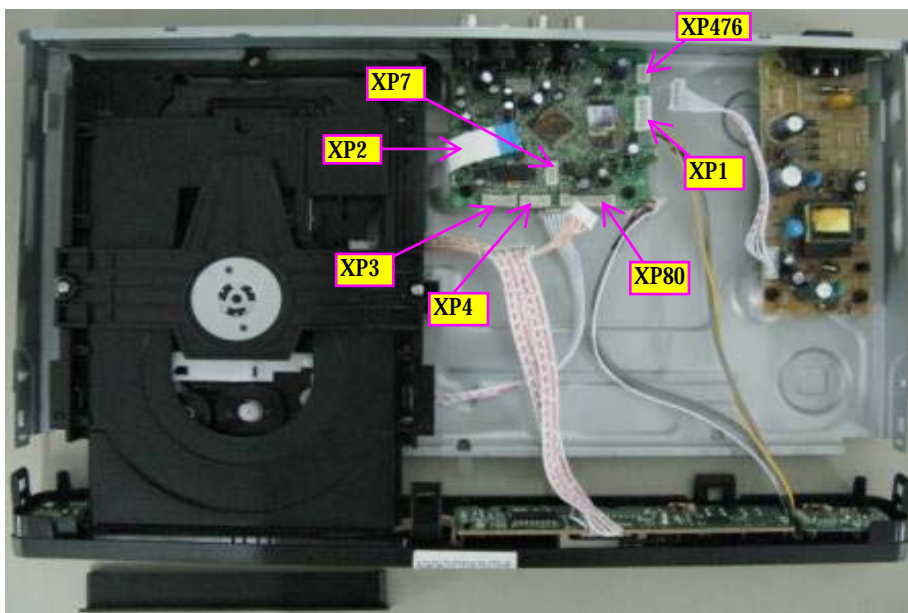
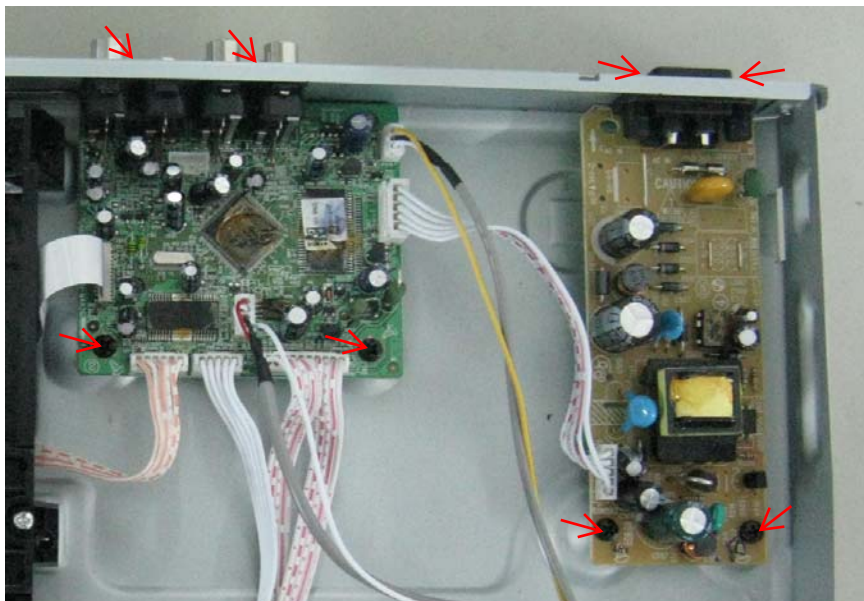

Figure 4
Figure 6
Step4: Dismantling Front Panel, disconnect the connectors (XP80, XP7, XP476), need release 3 snaps of Front Panel & 2 snaps of bottom cabinet , then gently pull the Panel out from the set. (Figure 4 - Figure 6)
Step6: Dismantling Main Board, first disconnect the connector (XP1), and then remove 4 screws. (Figure 6)
Step7: Remove the 4 screws on Power Board to dismantle the Power Board. (Figure 6)